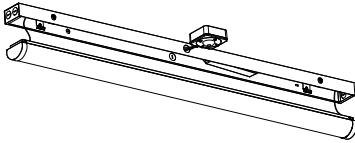
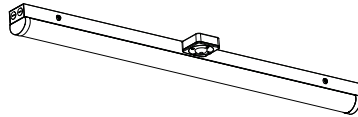

Figure 11
Figure 12
Step 2. Assemble the PIR sensor onto the lamp (Figure 11), connect the wires according to the wiring instructions, and then assemble the disassembled lamp back. (Figure 12)